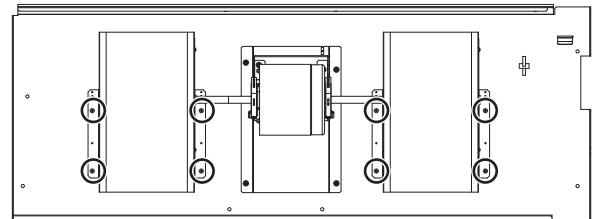

Fig.3
- (1) Remove the eight fixing screws on the fan case to remove it (Fig.3).